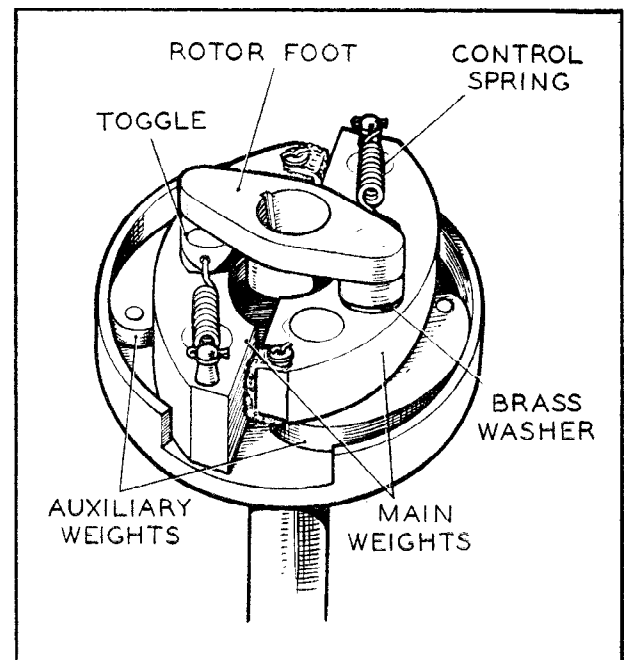

Fig. 5.
- (i) Note the arrangement of automatic timing control, see Fig. 5.